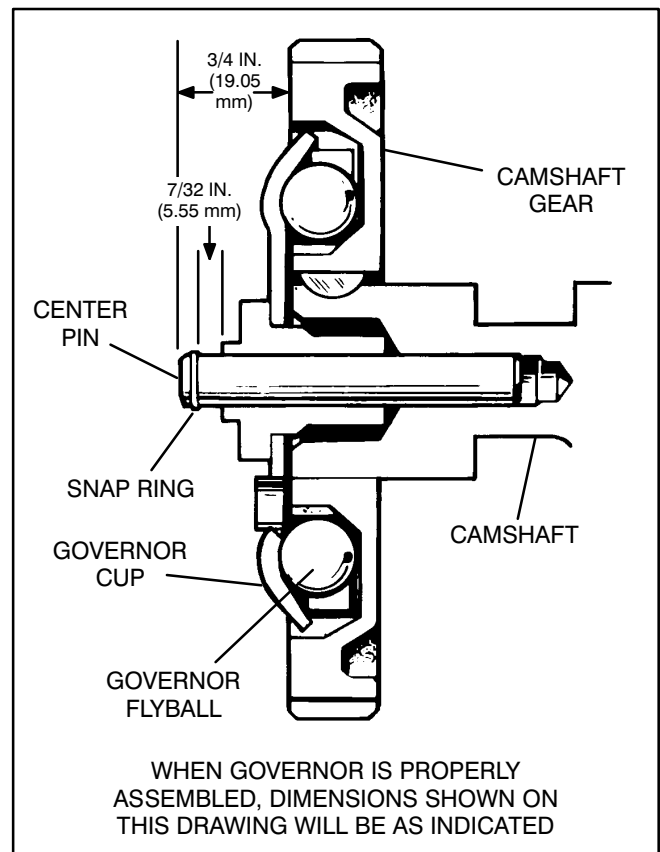

FIGURE 7-25. GOVERNOR CUP
2. Remove the snap ring from the camshaft center pin (see Figure 7-25).
1. The camshaft center pin extends 3/4 inch (19 mm) from the end of the camshaft. This distance provides 7/32 inch (5.6 mm) travel for the governor cup, as illustrated in Figure 7-25. Measure this distance while holding the cup against the flyballs.